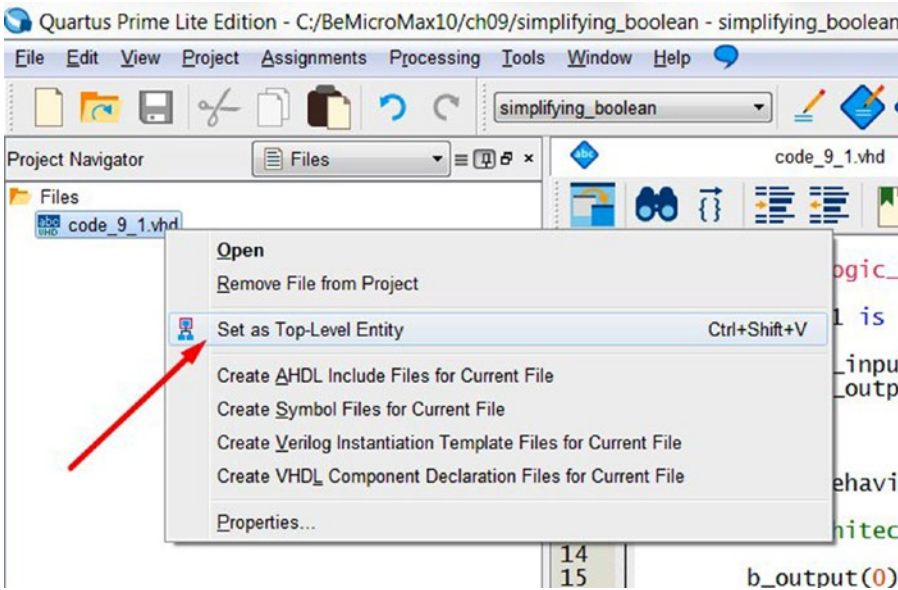

Figure 9-1. Set as Top-Level Entity
2. Set code_9_1.vhd as Top-Level Entity, as shown in Figure 9-1